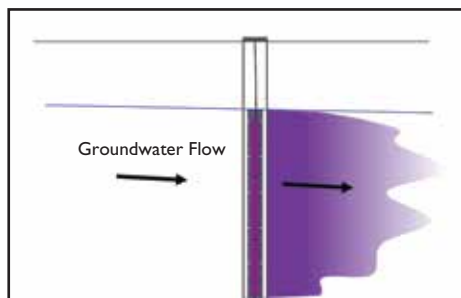

Figure 1: In Well Cylinder Deployment
- In well deployment (figure 1)